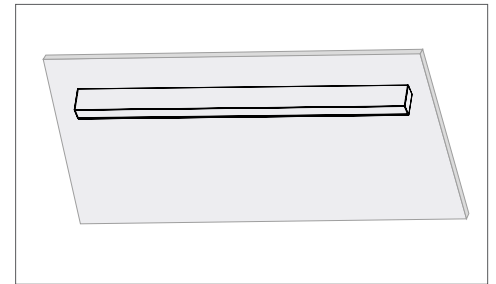

FIGURE 5-5
7) Installation is complete. (Figure 5-5)